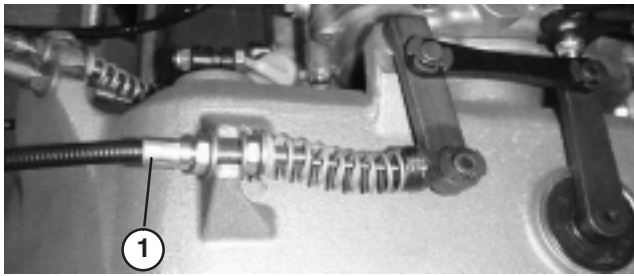

Figure 49
2. To increase cable tension, loosen front cable jam nut and tighten back cable jam nut (Fig. 49) (located on top of gear box) until the reel cable force adds 7 to 10 lbs. of additional handle force measured at the control knob.